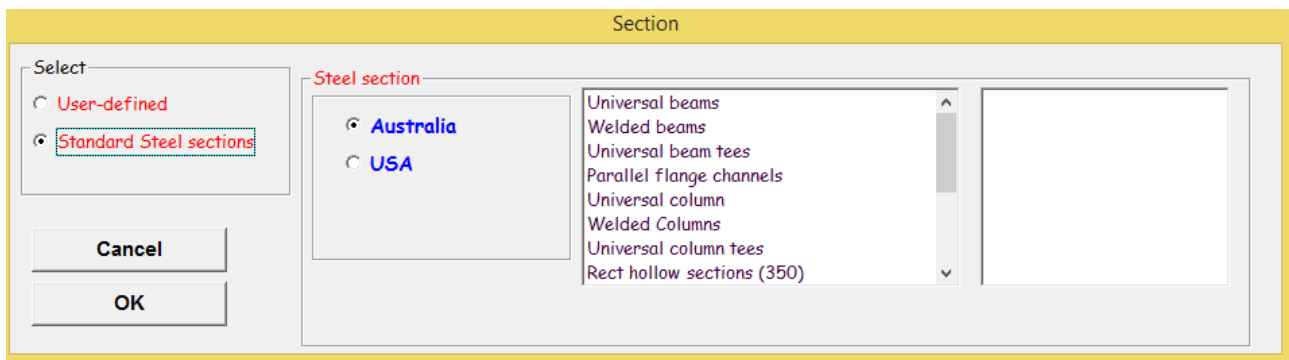

Figure 35
**Step 3:** Click 'Change' button. (Figure 35 Will then appear)